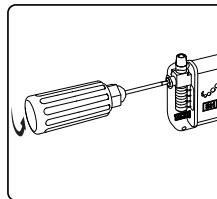

Figure 4: Use the torque wrench to turn the setscrew counterclockwise to back up the Neurostimulator setscrew and allow for insertion of the lead.
3. Use the torque wrench to turn the setscrew counterclockwise to back up the setscrew. Do not remove the setscrew from the connector block (**Figure 4**)
3. Use the torque wrench to loosen the setscrew in the Neurostimulator connector block by turning it counterclockwise (**Figure 4**).